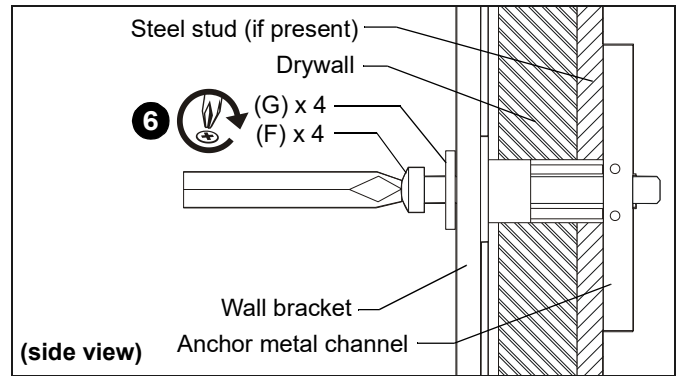

Figure 11
6. Insert 1/4-20 x 1-3/4" Phillips pan head screw (F) through 1/4" washer (G), corresponding mounting hole in wall bracket and into anchor (H), and tighten until flush against wall bracket. DO NOT over-tighten! (See Figure 11)